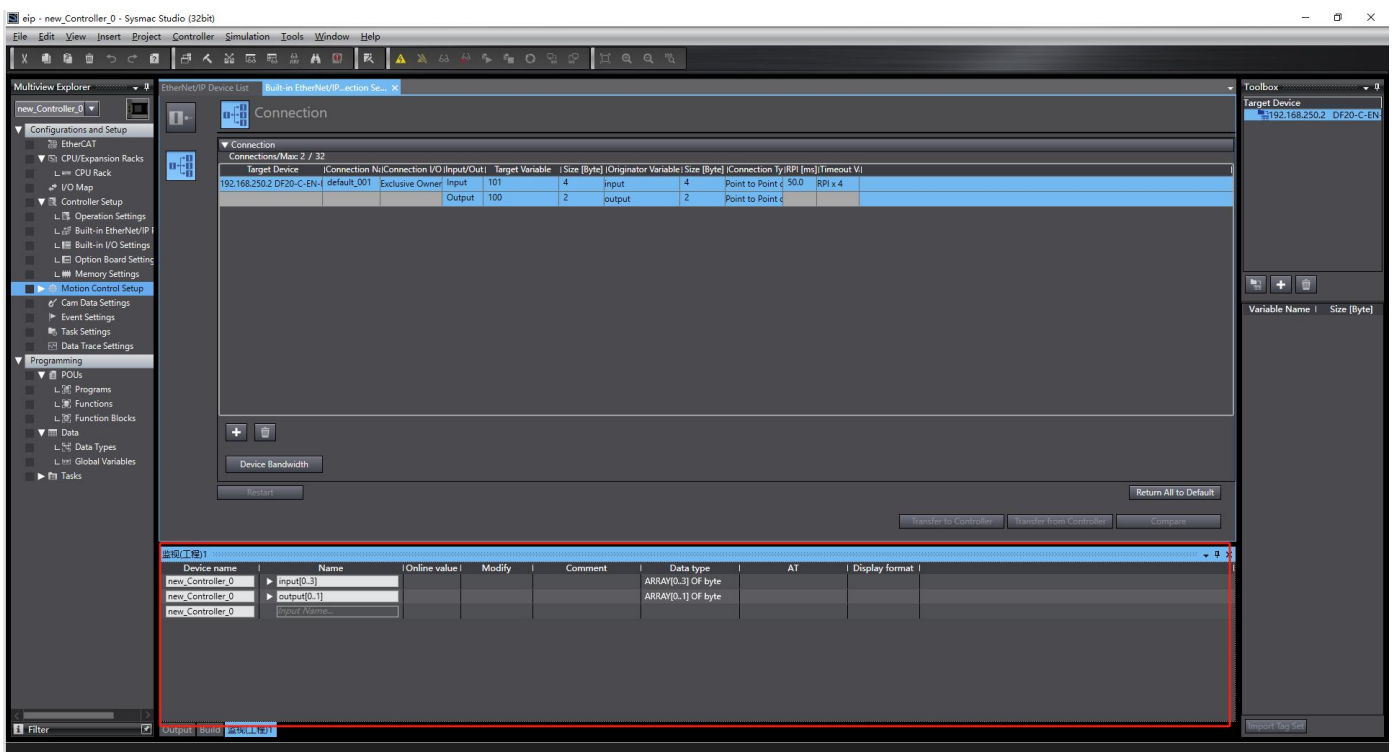

Figure 5-2-16
- Add the name created in the global variable in the monitoring window as shown in the figure, and modify the byte length in the brackets as shown in Figure 5-2-16 and Figure 5-2-17.